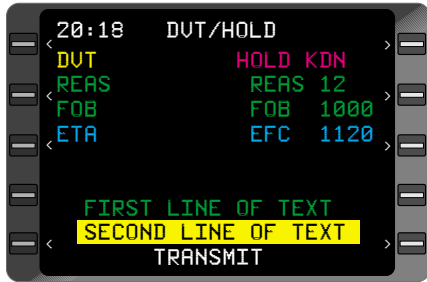

Figure 8-26
14. **ENTER** Key - DEPRESS. If the field is blank the cursor will move to **TRANSMIT**. Otherwise the cursor will move to the second line of free text. See Figure 8-26.